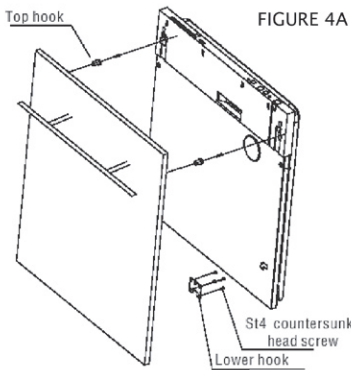

Figure 4A
2. Install the hook on the aesthetic wood-en panel and put the hook into the slot of the outer door of dishwasher(see figure 4a). After positioning of the panel , fix the panel onto the outer door by screws and bolts(See figure 4b).